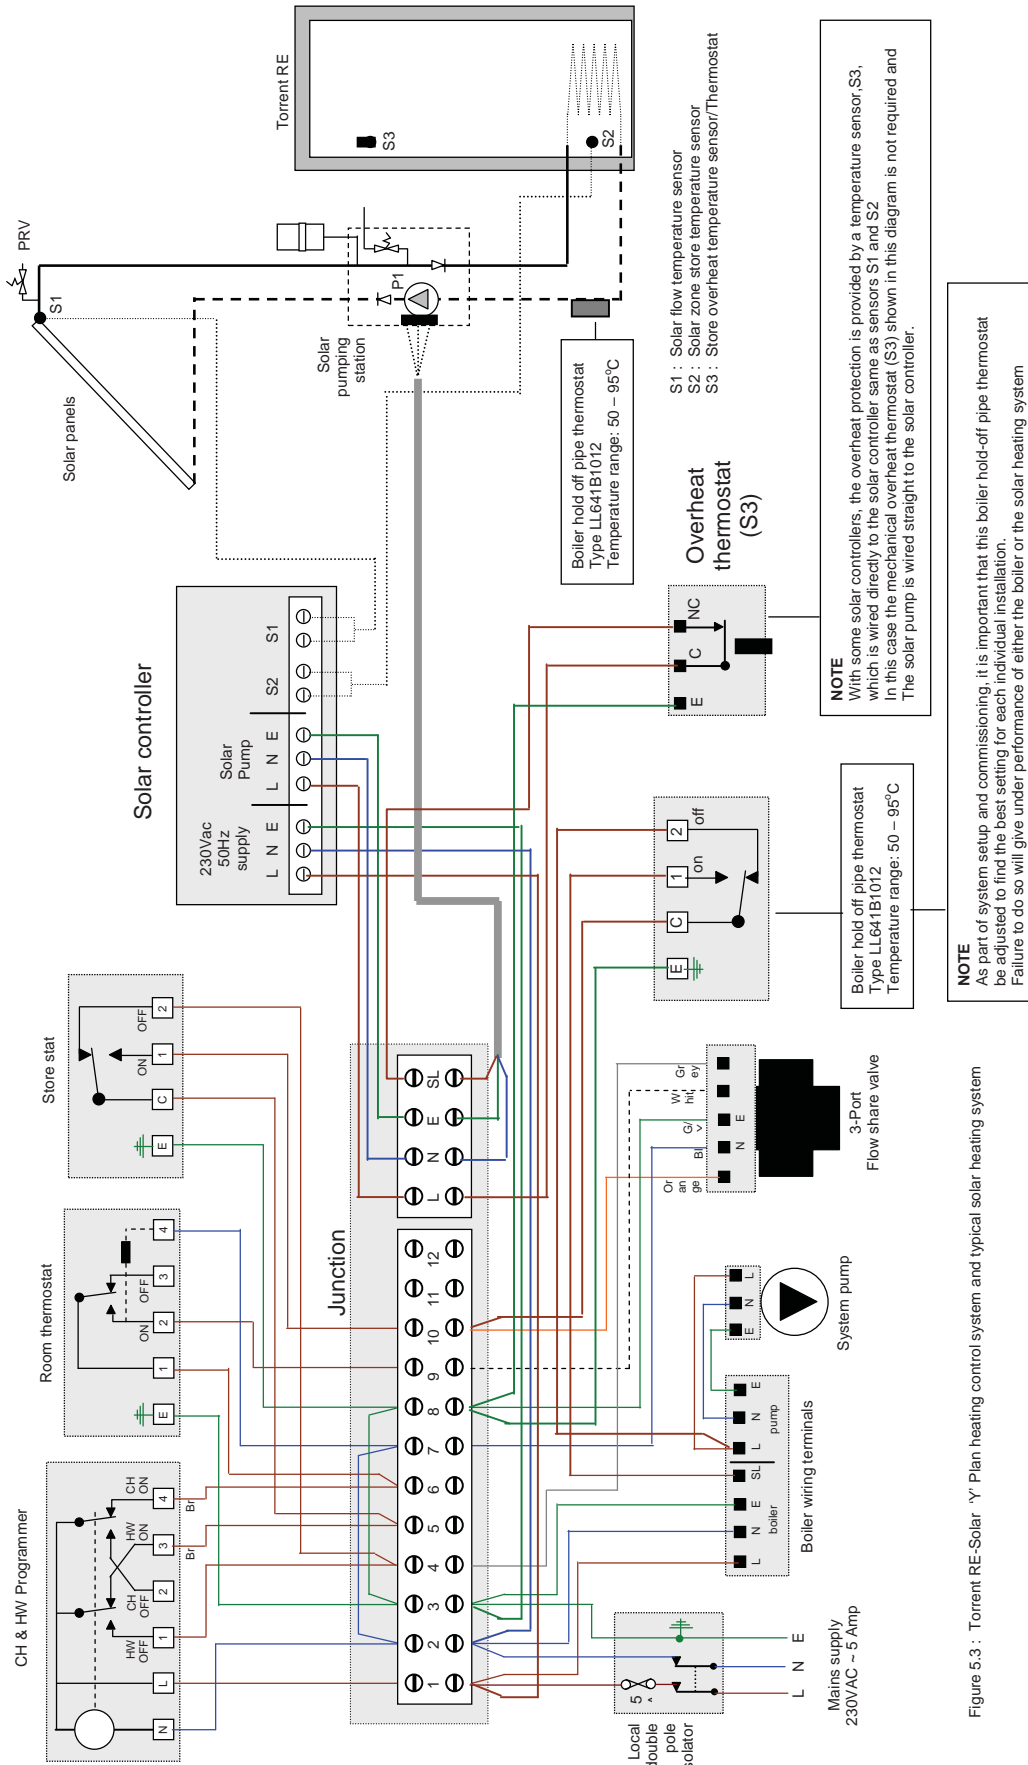

Figure 5.3 : Torrent RE-Solar Y Plan heating control system and typical solar heating system
- Figure 5.3 : Example wiring diagram for a 'Y' Plan central heating system and typical solar heating system for the Torrent RE-solar 'OV' and 'SP' models.